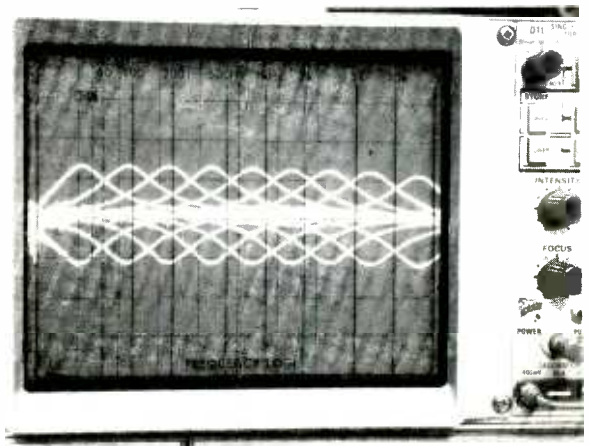

Fig. 4: Biamp 119: Twin-tone (9 kHz & 10 kHz) test signal (at center of screen) produced IM components at right, which amounted to a net percentage of 0.22%.
In Fig. 4 (A, B and C) we have plotted output linearity versus input for a 10-kHz test signal, in order to find the MOL for this high frequency with and without Dolby C and HX for the three tested tapes. As might be expected, the more linear curve in each display is the one taken when Dolby HX is on. The difference in high-frequency headroom when Dolby HX is used is particularly dramatic with the ferric-oxide and high-bias tape samples (Figs. 4 A and B); less so with the metal tape (Fig. 4C) which already exhibits excellent high-frequency MOL even without the benefit of Dolby C and HX.
Fig. 4: VCX-800: Maximum output level plots, at 10 kHz, with (upper curves) and without (lower curves) Dolby C and HX, using TDK-AD (A), TDK-SA (B) and TDK-MA tape.